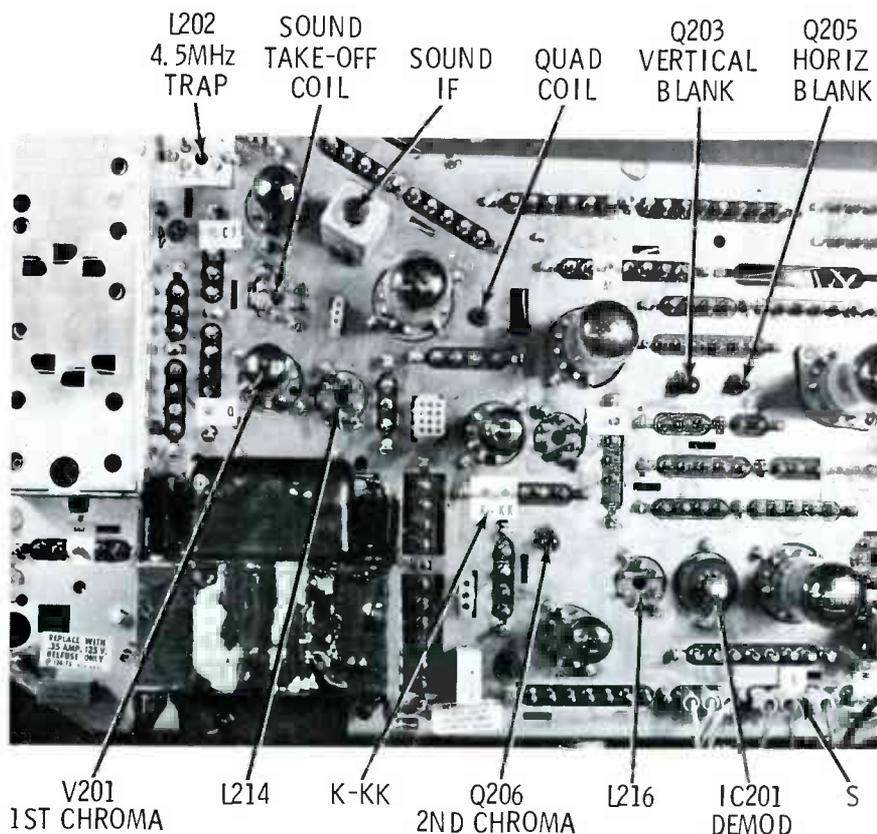

Fig. 16 Location of the chroma components and test points.
2) Attach the demodulator probe to pin 3 of the IC demodulator (Fig. 16 shows the location of chroma components), slide the PROBES switch to DEMODULATOR, slide the VERTICAL switch to NORMAL and turn the chroma level control to the center of its range. (Make sure the clip lead is still connected between test points K and KK to defeat the color killer.)